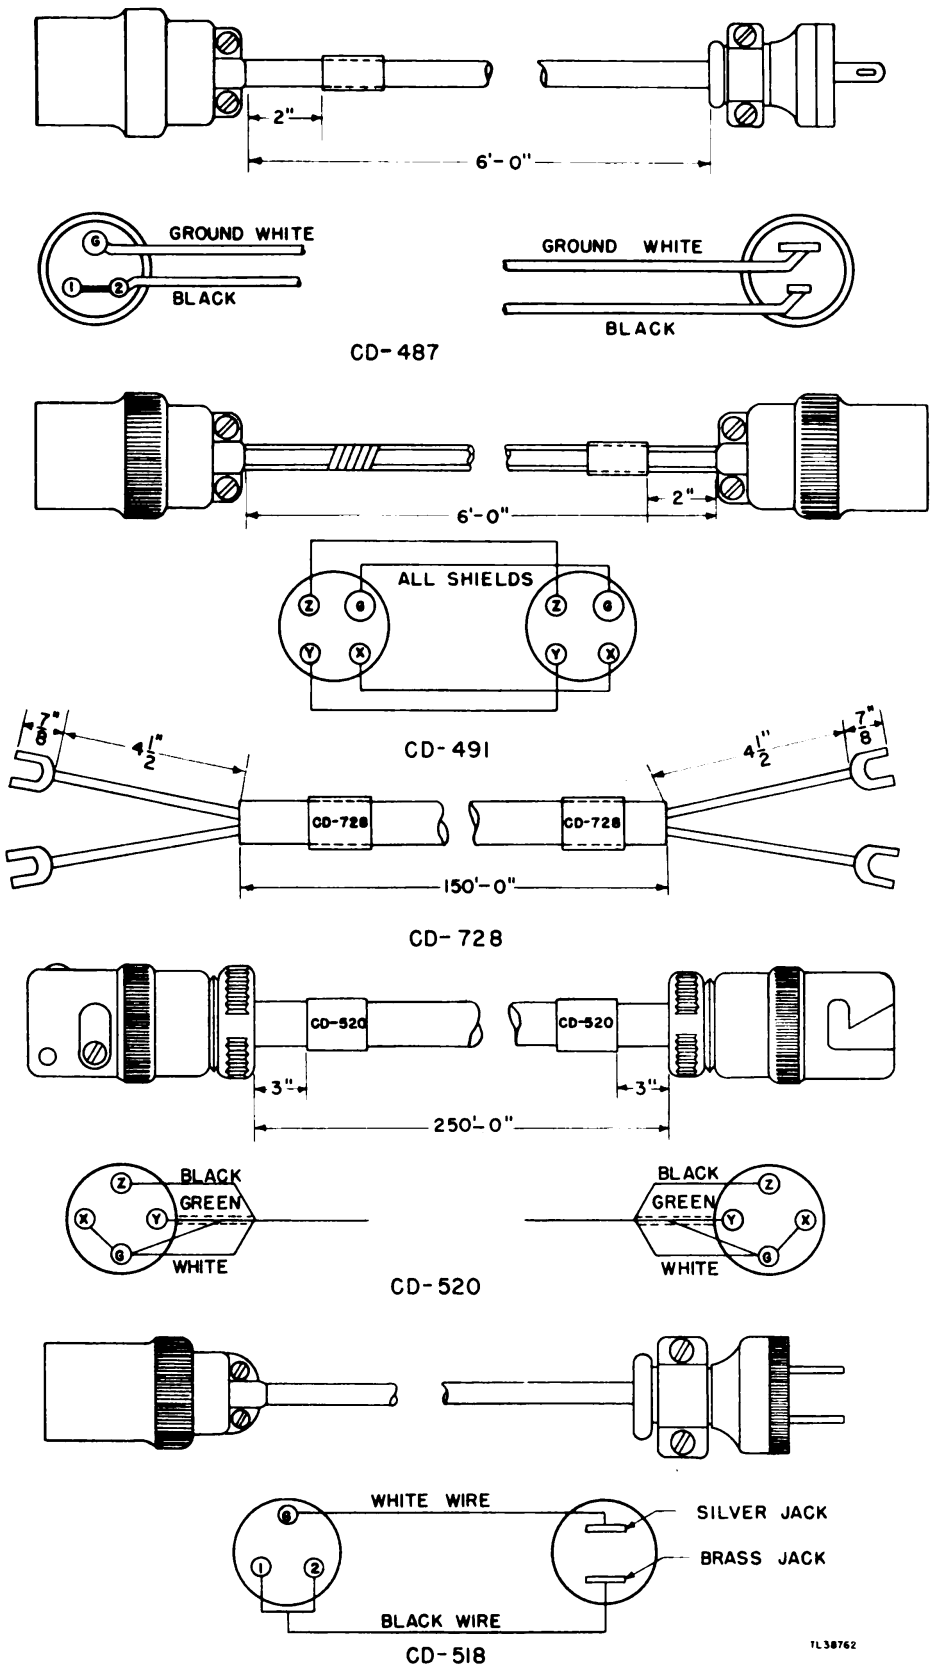

Figure 17. Test Cords, sketch.
The following is a list of the cords contained in Test Set AN/MPM-1. Figures 17 and 18 show the complete set of cords and their connecting plugs.
a. **Cord CD-487 (fig. 17).** Cord CD-487 is a 16-foot, 2-conductor, rubber-covered cable used to supply power to the radio receiver. It has a 3-pole male plug on one end and a polarized plug cap on the other end.
**e. Cord CD-491 (fig. 17).** Cord CD-491 is a 6-foot, 3-conductor, rubber-covered cable used to connect the output of the radio receiver to the input of the oscilloscope while in test position. The three conductors are individually shielded. Both ends are connected to a 4-pole male plug.
**f. Cord CD-518 (fig. 17).** Cord CD-518 is a 6-foot, 2-conductor, rubber-covered cable which is used to supply power to the range unit. One end of the cable is connected to a 3-pole female plug and a polarized plug cap is connected to the other end.
**g. Cord CD-520 (fig. 17).** Cord CD-520 is a 250-foot, 4-conductor, rubber-covered cable with one of the conductors shielded. It is used to supply power to the radio modulator and to transfer the synchronous voltage from the radio modulator to the units on the trailer while adjusting the antennas. A 4-pole male plug is connected on one end, and a 4-pole female plug is connected on the other end.
**h. Cord CD-728-A (fig. 17).** Cord CD-728-A is a 150-foot, 2-conductor, rubber-covered cable which connects the thermocouple to the milliammeter on the field-strength meter assembly. Both ends of each conductor are connected to an open end spade-type lug.